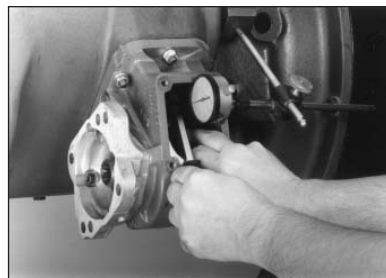

Fig. 8
2. Mount the dial indicator so that it registers movement of the input gear (driven gear) of the P.T.O. (**Fig. 8**).